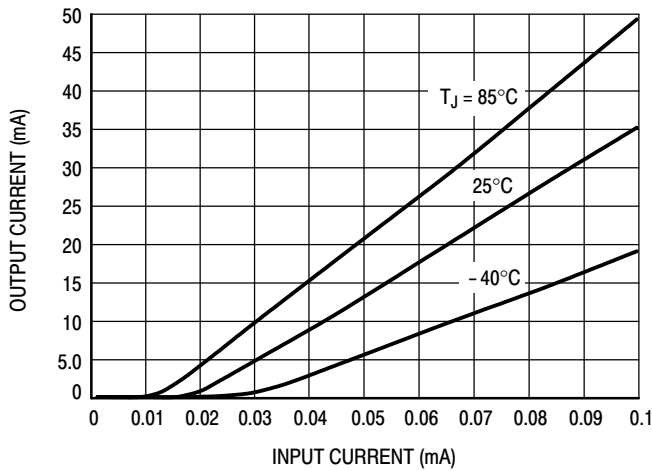

Figure 4. Threshold Effects
5. For levels of input current below 100 μA , use the input threshold curves of Figure 4 to verify that turn on the MDC3105 at all temperatures.